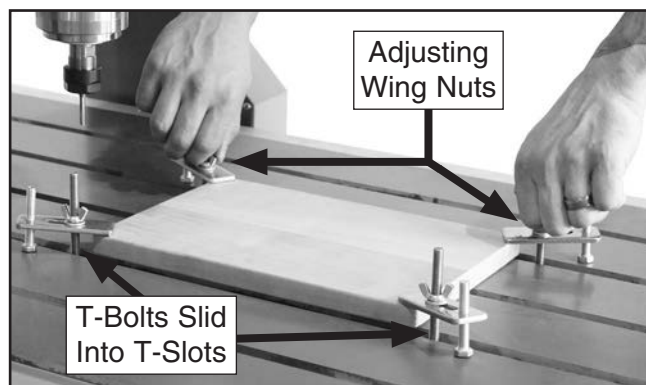

Figure 23. Clamping workpiece to table.
4. Slide T-bolts into T-slots, then adjust wing nuts and hex bolts so clamp plates are higher than workpiece (see **Figure 23**).